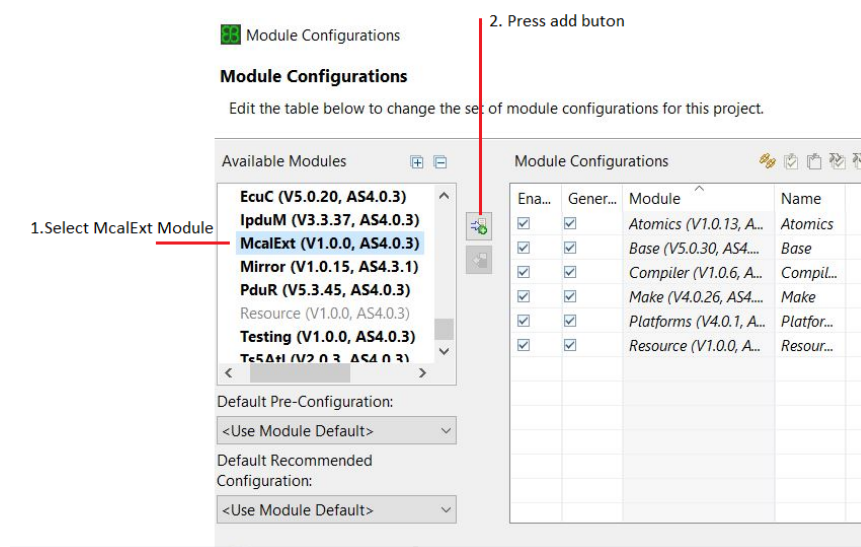

Figure 5.1. Add McalExt Module
- ▶ Add the `McalExt` module to the project configuration. see Figure 5.1, “Add McalExt Module”